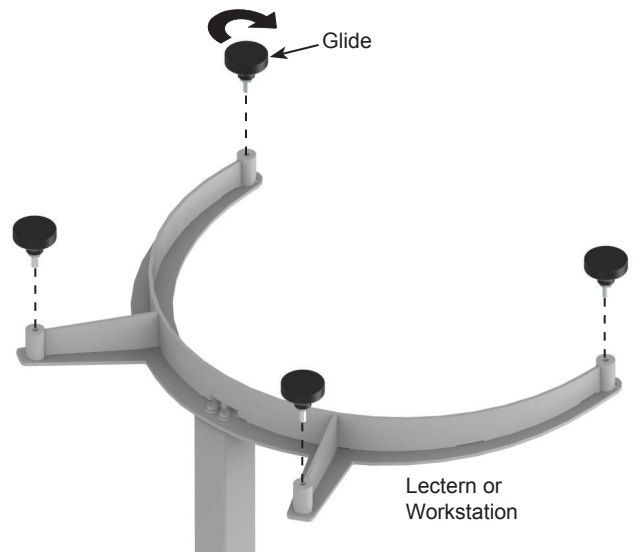

Figure 2
1. Carefully tip the unit upside-down or onto its side. This may require two people. **Figure 2.**